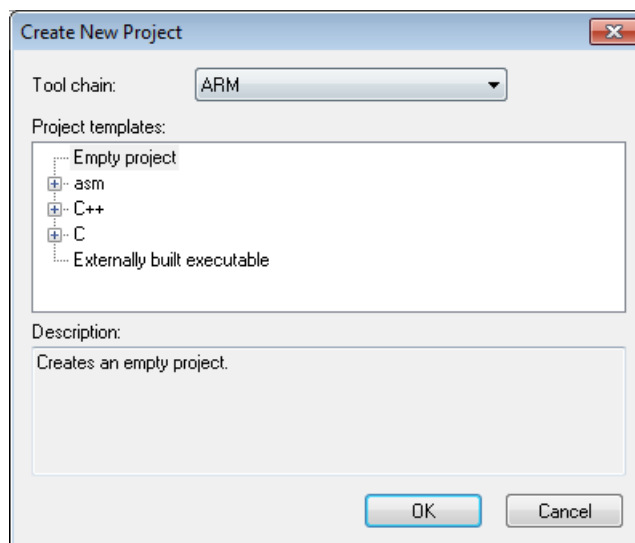

Figure 5: A window to create new project
- Click “Project” in the menu, and then click “Create New Project ...” to get a window as shown in Fig. 5.